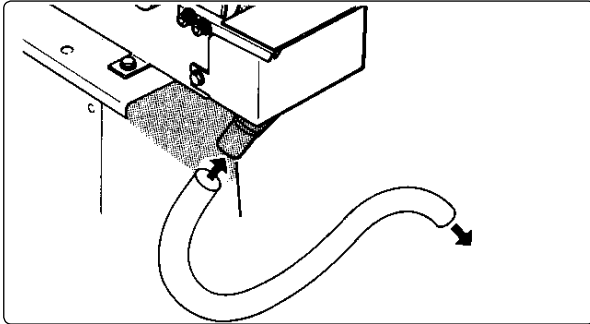

fig 13
7.9.1. The SM100 is equipped with a dust collector provided with a 35mm Ø outlet for connection to your own dust extraction system (fig 13).